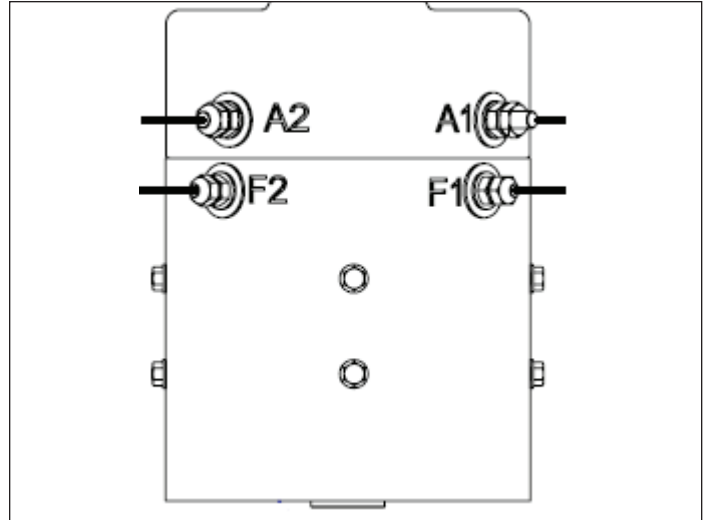

Figure 10-1. Traction Motor Cables Labels
1. Mark traction motor cables (if not already marked), with motor terminal identification. Figure 10-1.